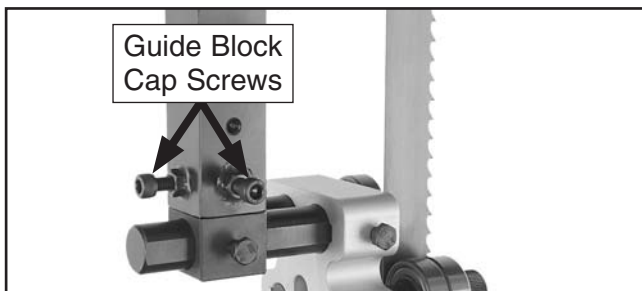

Figure 79. Guide block cap screws (blade guard removed for photo clarity).
3. Place one hand under the upper blade guide assembly to keep it from falling, loosen the two cap screws that secure the guide assembly to the guide post (**Figure 79**), then remove the guide assembly.